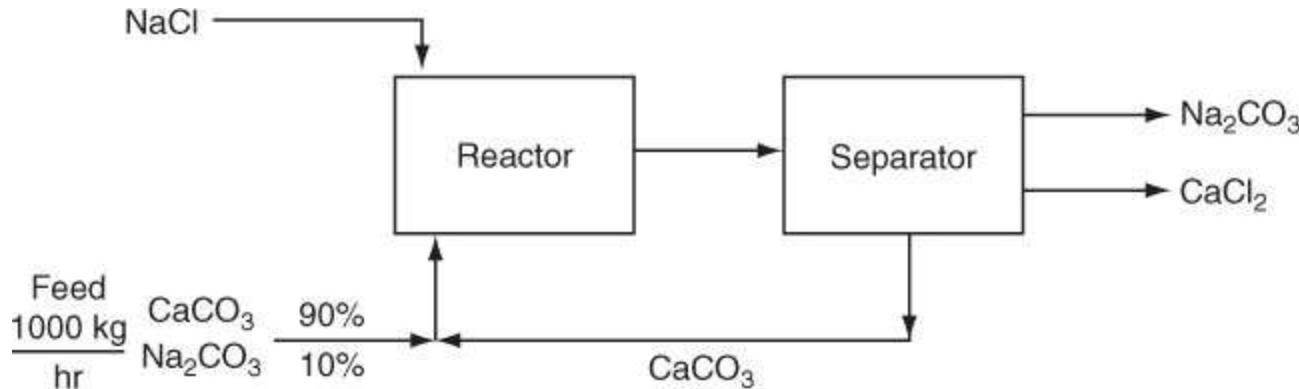

Figure P6.3.12
****6.3.12.** Examine Figure P6.3.12. $NaCl$ and the feed solution react to form $CaCl_2$. In the reactor the conversion of $CaCO_3$ is 76% complete. Unreacted $CaCO_3$ is recycled. Calculate (a) the kilograms of Na_2CO_3 exiting the separator per 1000 kg of feed, and (b) the kilograms of $CaCO_3$ recycled per 1000 kg of feed.